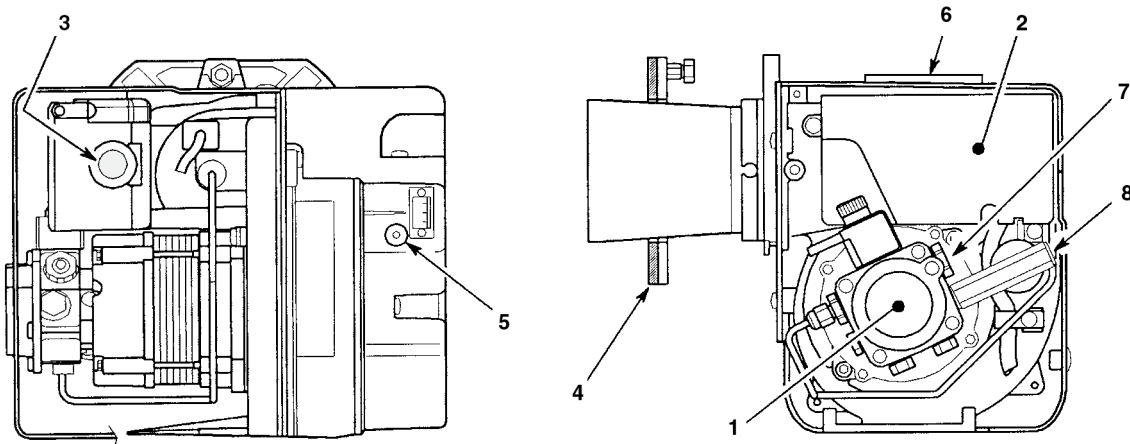

Figure 3-6: Riello RDB burner components
Remove the factory fitted air inlet spigot adaptor (item 6) in Figure 3-6 from the air intake on the top right hand side of the burner and fit the grey plastic air inlet grille in its place.